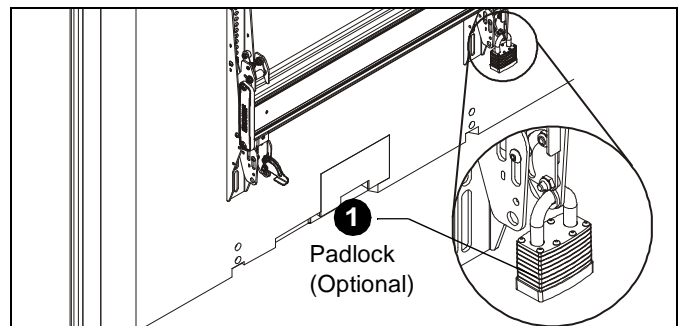

Figure 12
1. Add padlock (not included) to each interface bracket to lock display to ceiling mount. (See Figure 12)